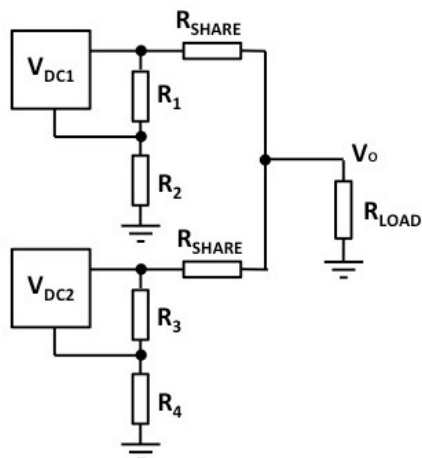

Figure 3. Balancing resistors share load between DC-DC converters
- Balancing resistors** provide a way for sharing a load either between two or more DC-DC converters. Operating DC-DC converters in parallel may be more cost effective than using a single higher-current unit or may be more desirable in some instances because of physical size constraints or thermal considerations. However simply tying the outputs of two converters together does not ensure they share the load current equally. The equal value R_{SHARE} resistors shown in figure 3 accommodate the difference between the regulated outputs of each converter.